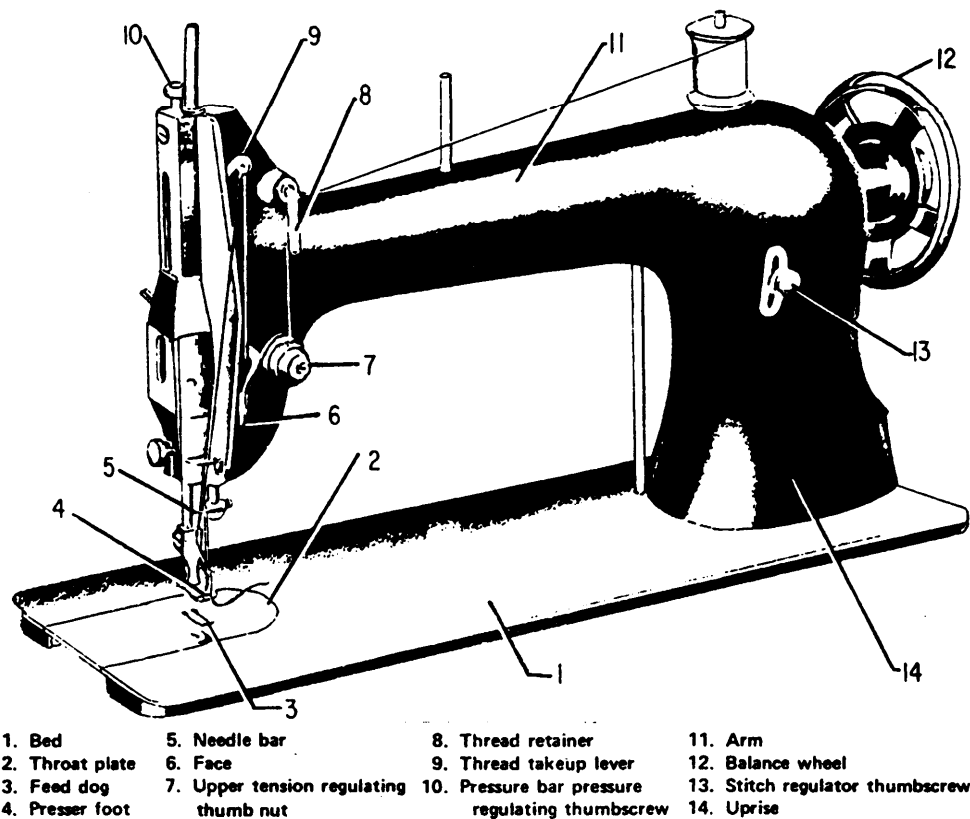

Figure 9-2.—Sewing machine 31-15.
Now look at figure 9-2. The standard sewing machine has four basic parts: bed, uprise, arm, and face. The BED (1) houses the linkage from the safety clutch pulley to the sewing hook
When the 31-15 machine is in operation, the balance wheel turns over toward the operator. When hand-turning the balance wheel, always rotate it in this direction. The components of the Singer Sewing Machine 31-15 are shown in figure 9-2.